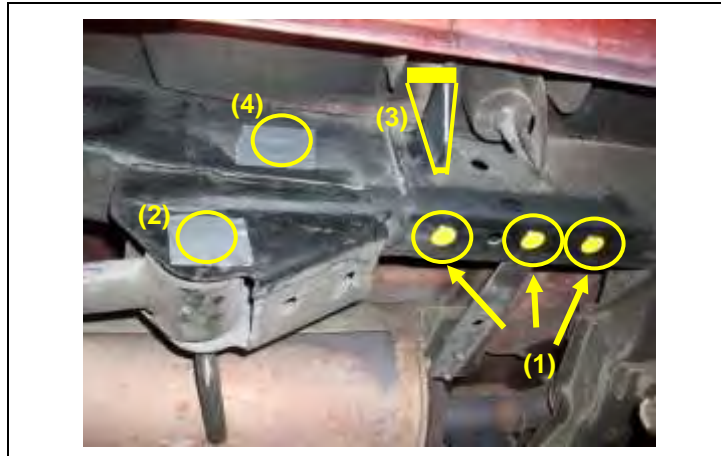

Figure 24 – Masking Locations for Type “C” Reinforcement Bracket
11. Using the 3/4” round labels provided in the service kit, mask off the Pop-nuts. Use tape to mask off other related bracket mounting locations highlighted in Figure 24. This is required to inhibit Noxudol chemicals from coating the bracket mounting surfaces.